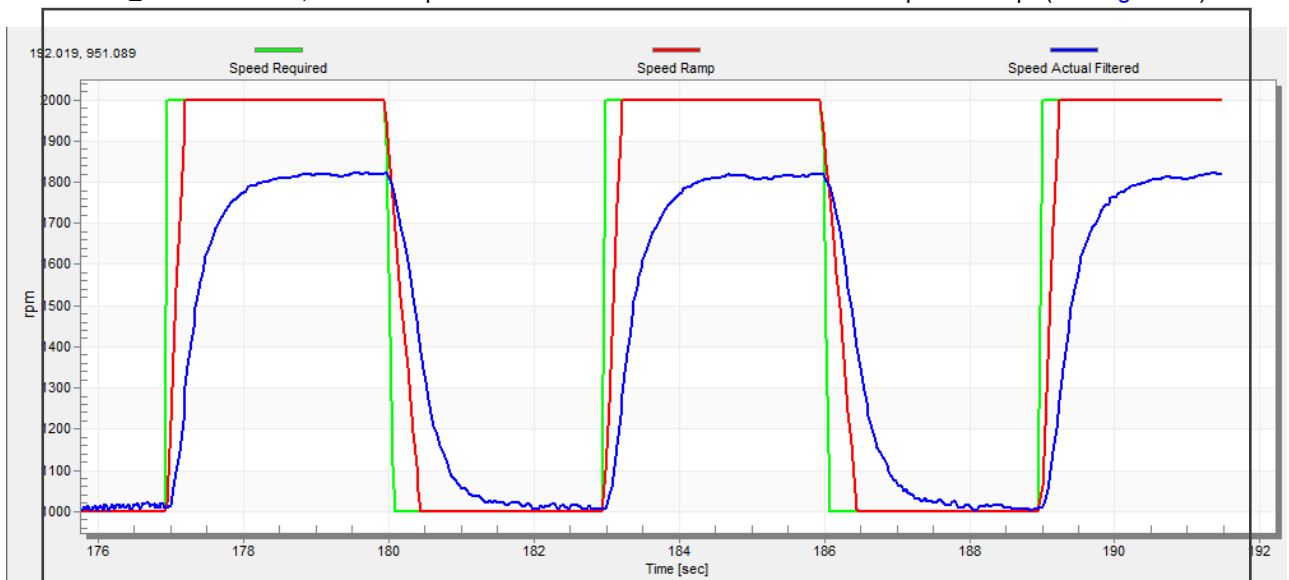

Figure 32. Speed Controller Response—SL_Ki value is low, Speed Ramp is not achieved
The motor speed control loop is a first-order function with a mechanical time constant that depends on the motor inertia and friction. Obtaining these mechanical constants using the PMSM electrical and mechanical parameter measurement process is described in Section 5.1.6, “Mechanical parameters measurement” and Section 5.1.7, “PMSM electrical and mechanical parameters measurement process”. If these mechanical constants are available, the PI controller constants can be tuned using the loop bandwidth and attenuation. Otherwise, the manual tuning of the P and the I portions of the speed controllers is available to obtain the required speed response (see the example response in Figure 32). There are dozens of approaches available to tune the PI controller constants. The following steps provide one of these examples to set and tune the speed PI controller for a PM synchronous motor:
- a. The “SL_Ki” value is low, and the “Speed Actual Filtered” does not achieve the “Speed Ramp” (see Figure 32).